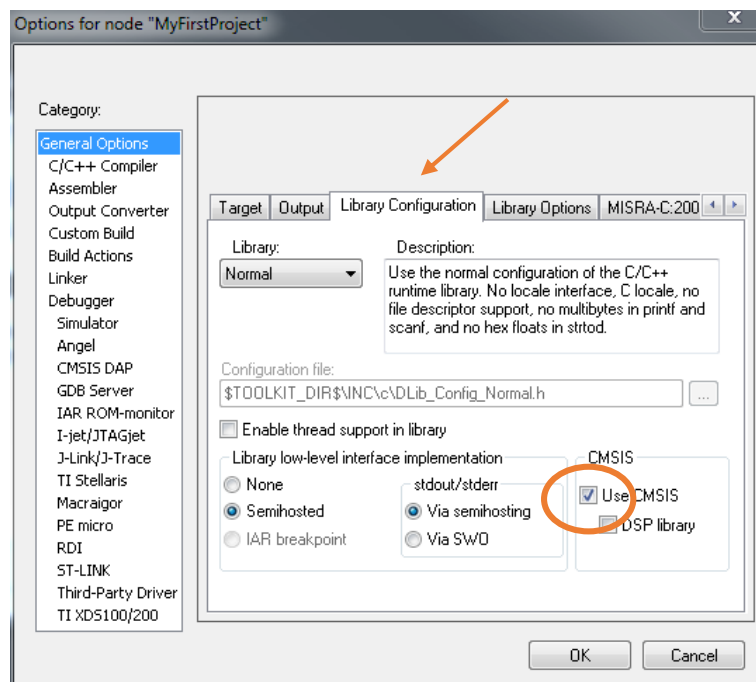

Figure 3.9: Enable the use of CMSIS standard
- Enable the CMSIS standard and libraries by ticking the appropriate tick box, Fig. 3.9.